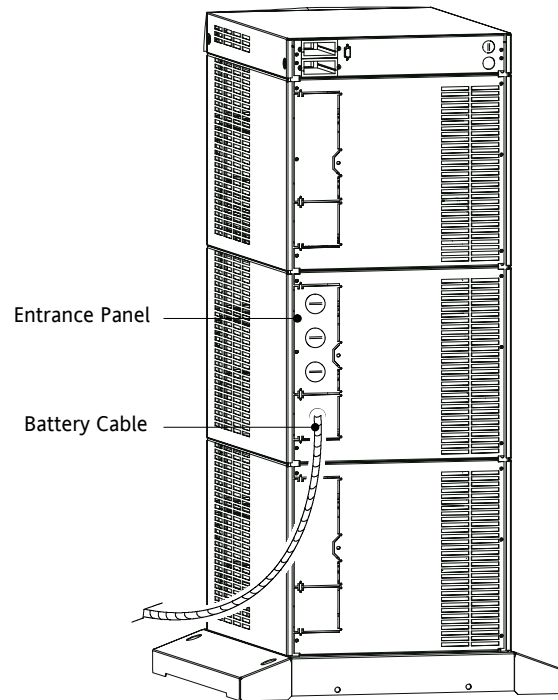

Figure 42. UPS Power Entrance Panel
2. Locate the 3-slot section in the UPS cabinet that contains the power entrance panel. Unscrew and remove the rear panel of this section (see Figure 42).